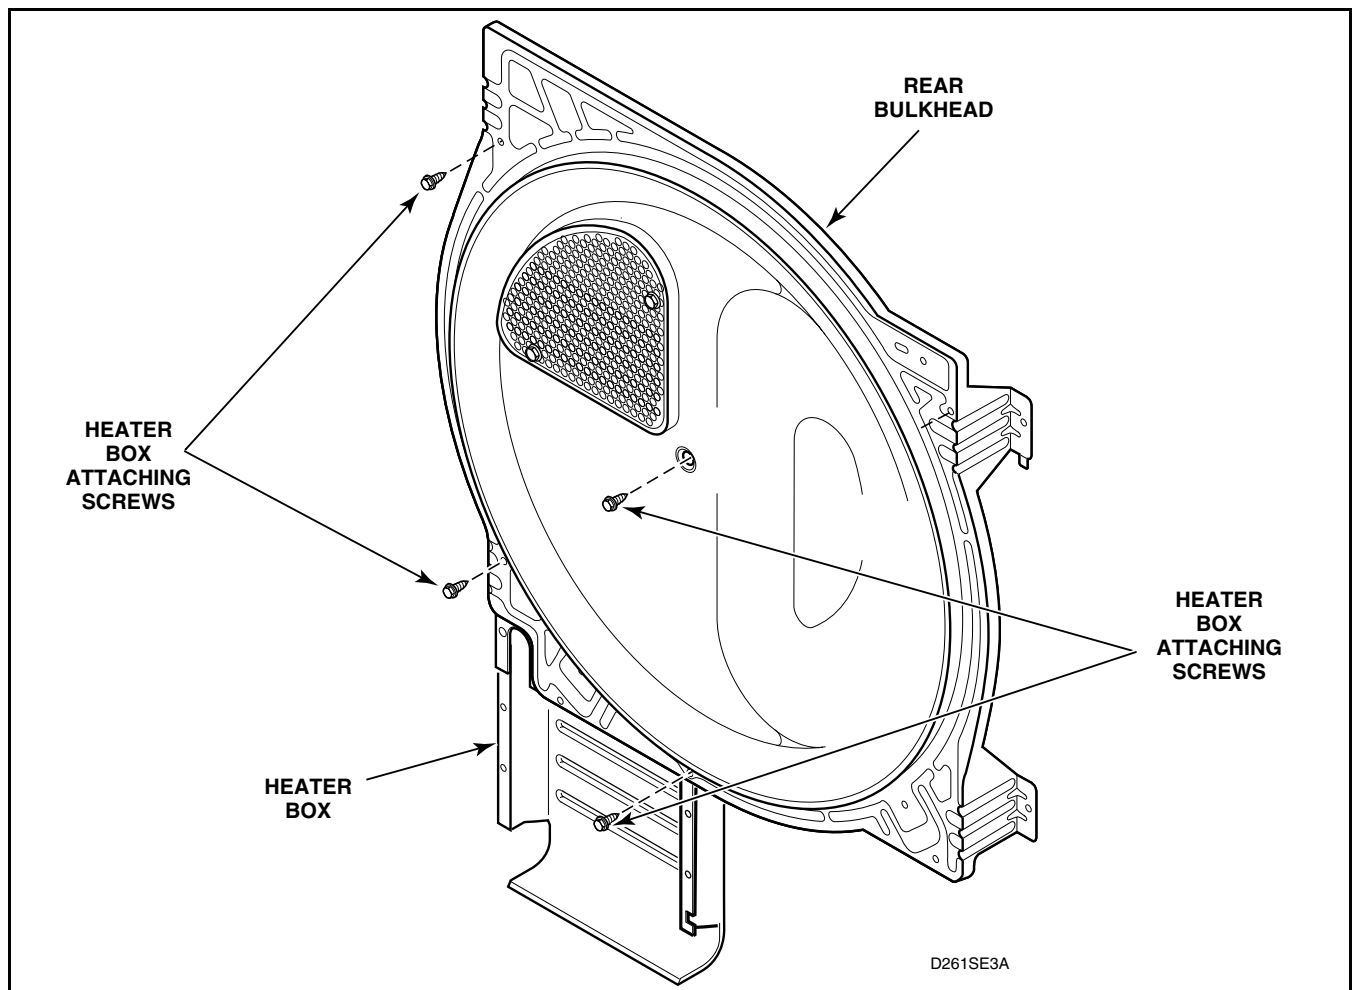

Figure 41
- l. To remove heater box from rear bulkhead, Refer to *Figure 41*.